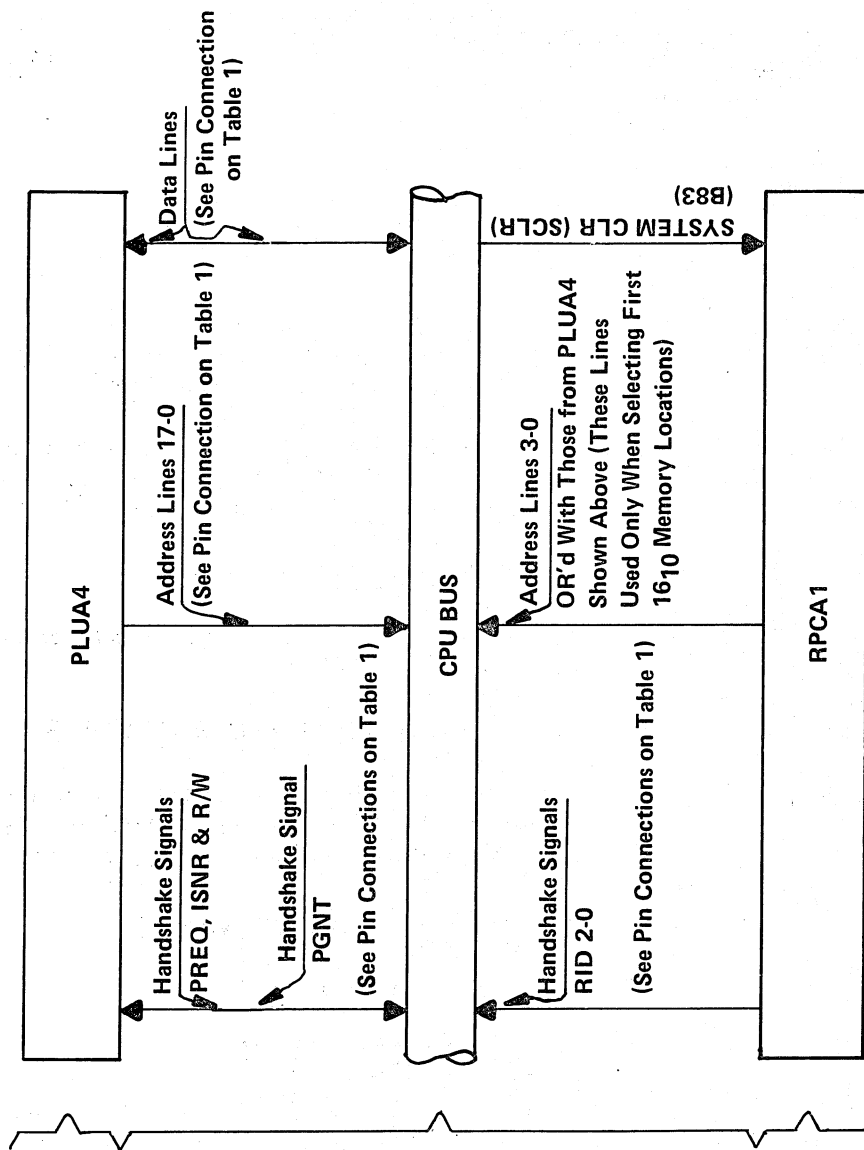

Fig. 1 CPU Bus Connections
This publication provides information to assist in the installation, troubleshooting and repair of the Processor function of a TDC 4500 Process Control System. The Processor consists of two PWA's (Printed Wiring Assemblies) plugged into card slot positions 5 and 6 of the CPU chassis, which is located in the Central System's cabinet of the system. Virtually all areas of the system are directly or indirectly connected to the Processor through backpanel connections. The two PWA's of the Processor interconnect through front-edge connectors. Processor connections are summarized by Figs. 1 and 2 of this publication, which include references to pin-connection summaries.
**HANDSHAKE CONTROL (See Fig. 1)**
**ADDRESS LINES SA17-00 (See Fig. 1)**
**DATA LINES 23-12 (See Fig. 1)**
**DATA LINES 11-00 (See Fig. 1)**